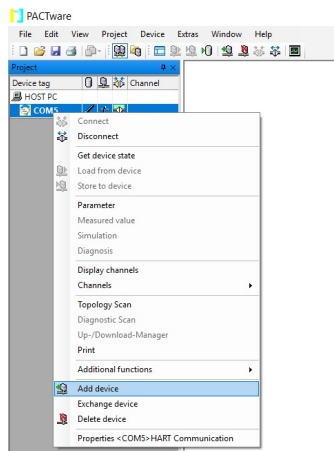
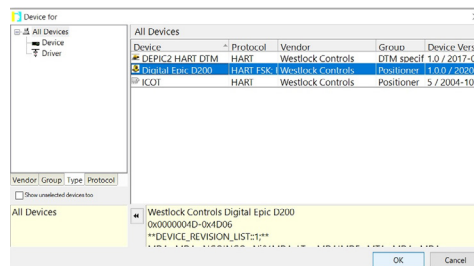

Figure 9: Add Device
Figure 10: Adding Digital EPIC D200
7. Open *Device Catalog* again (see step 2) and select Digital EPIC D200, then click *Add*. Alternatively, within the Project Window, right click *COM#* and select *Add Device*, select Digital EPIC D200, then click OK. See **Figure 9** and **Figure 10**.